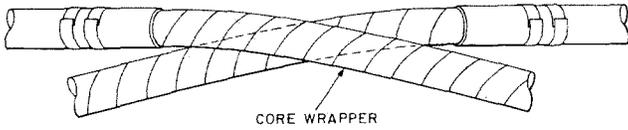

Fig. 6—Sheath Removed Between Inner Tape Markers
3.06 Remove jacket between inner tape markers exposing the core wrapper. **The sharp edges of the metal shield must be handled carefully to avoid injury.** Then remove the intermediate tape markers (Fig. 6).